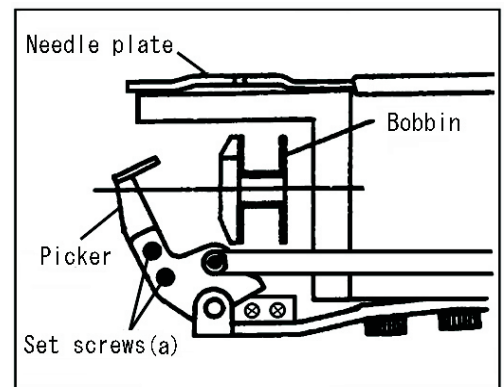

Fig.2
1. Loosen the 2 set screws (a).(Fig. 2)
2. Adjust the clearance by moving the picker.(Fig. 2)